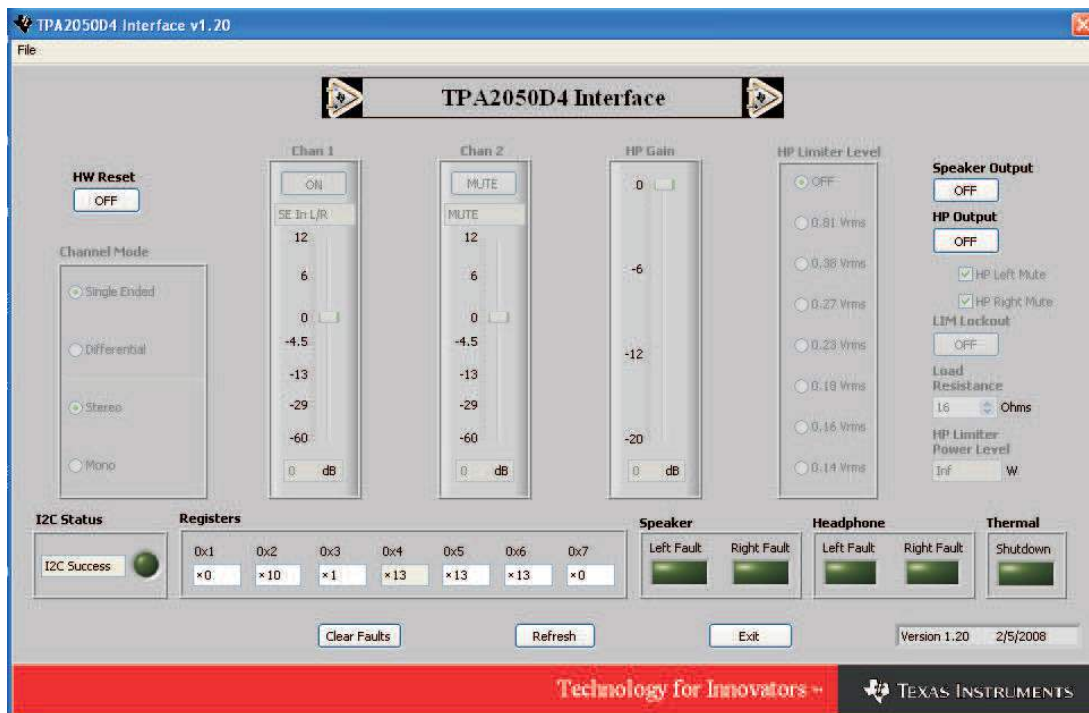

Figure 5. Software Interface
- The TPA2050D4 software interface is as shown in Figure 5.